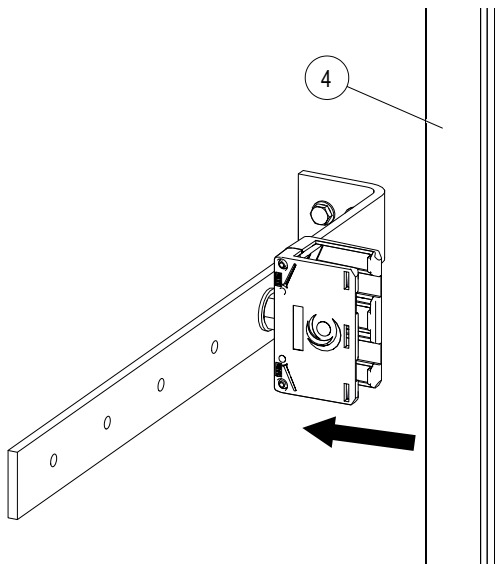
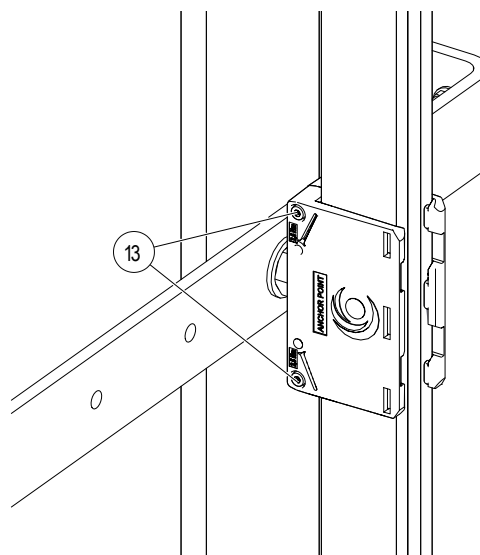
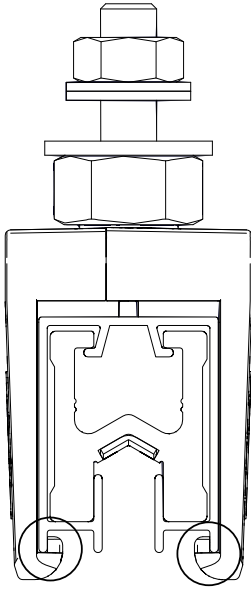

Fig. 34: Hang conductor rail in hanger clamp.
Fig. 35: Tighten the cylinder screws of the hanger clamp (Item 13).
Fig. 36. The hanger clamp completely encases the insulating profile.
- Hook the conductor rail (Item 4) into the already mounted hanger claps (see Fig. 34) and tighten the loosely mounted M4x40 cylinder screws (Item 13) of the two hanger clamp housing halves with the prescribed torque (SW 4, torque: **2.5 Nm**) (see Fig. 35). When hanging, ensure that the conductor rail is completely suspended in the hanger clamp (see Fig. 36).